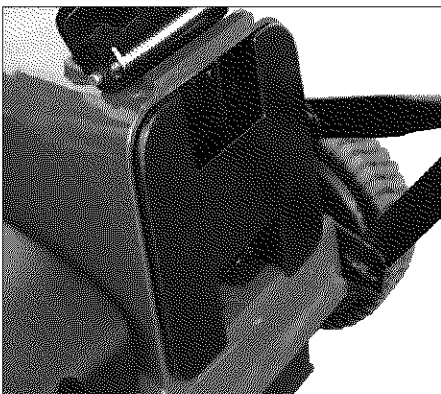

Figure 4-4: Installed Mulching Plug.
3. Position the plug with the word "TOP" facing up and push the Mulching Plug firmly into the discharge outlet (Figure 4-4).
4. The plug's flange (rim) must fit snugly against the edge of the discharge outlet to ensure efficient mulching (Figure 4-4).